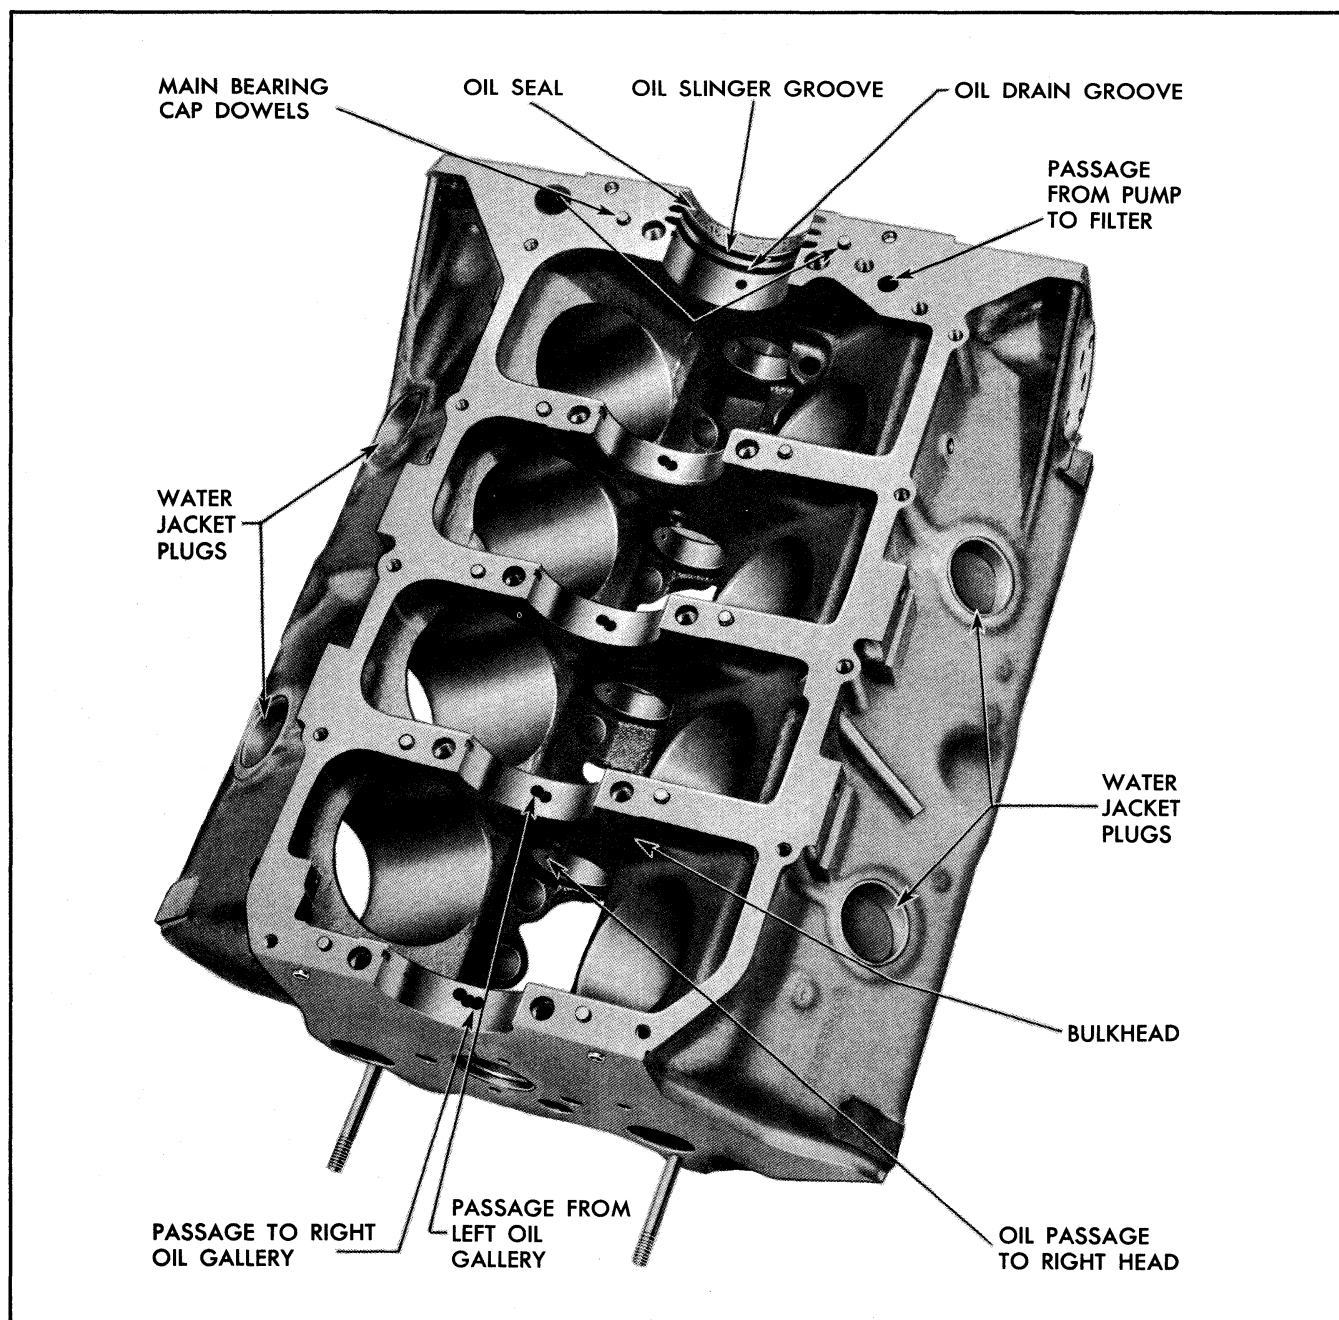

Fig. 6-153 Cylinder Block - View From Bottom
- a. With cylinder block inverted, use pen light to see that passage from oil pump to filter is open (Fig. 6-153).
c. Visually check passage from each main bearing to corresponding camshaft bearing (Fig. 6-153).